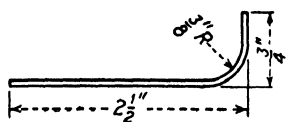

Fig. 254.—3/64-in. L.C. steel bent 90°.
1. Find the length of the straight parts of the fitting shown in Fig. 254.
2. Find the bend allowance of the fitting in Fig. 254.
3. Find the over-all length of the flat pattern of the fitting in Fig. 254.